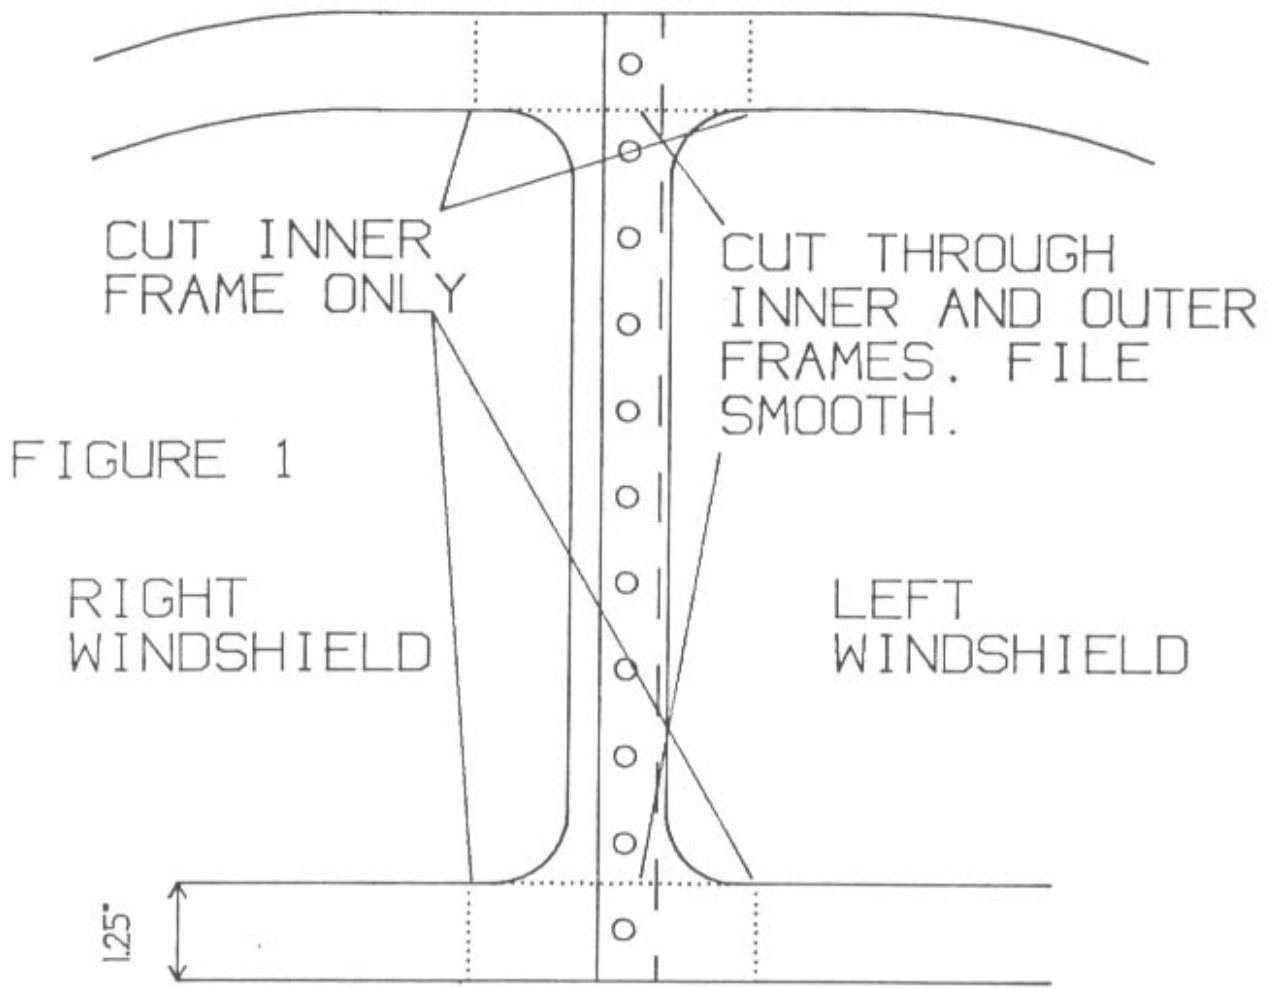

FIGURE 1
2. After the windshields have been removed from the aircraft carefully cut the center post of the frame at both the top and bottom. This will allow the frames to be removed from each windshield. Use a hack saw to make these cuts. See figure 1. Do not discard the cut away pieces, a section of this will be used in splicing the frame halves back together.
5. Using a hacksaw, cut the inner aluminum frame only, $1 \frac{5}{16}$ " from the center of the frame, 4 cuts. See figure 1. File the cuts smooth on both the top and bottom of the frame so that the approximate $1 \frac{1}{4}$ " width of the frame is maintained through the center joint of the frames. Check the fit of these frames to the new windshield by sliding both halves of the frame onto the edges of the windshield. The windshield is trimmed and the edge of the inside surface is milled to fit the frame at our factory, however a sander or file may be used to remove any excess acrylic. The inner aluminum frame inside edge varies in size and may need to be trimmed. If there is a gap between the frame halves and the frame is hitting the flange of the windshield, trim the inner frame to allow complete engagement of the frame onto the windshield. Align the original center rivet holes and cleco in place. Cut two $3 \frac{5}{8}$ " splices from the center post inner